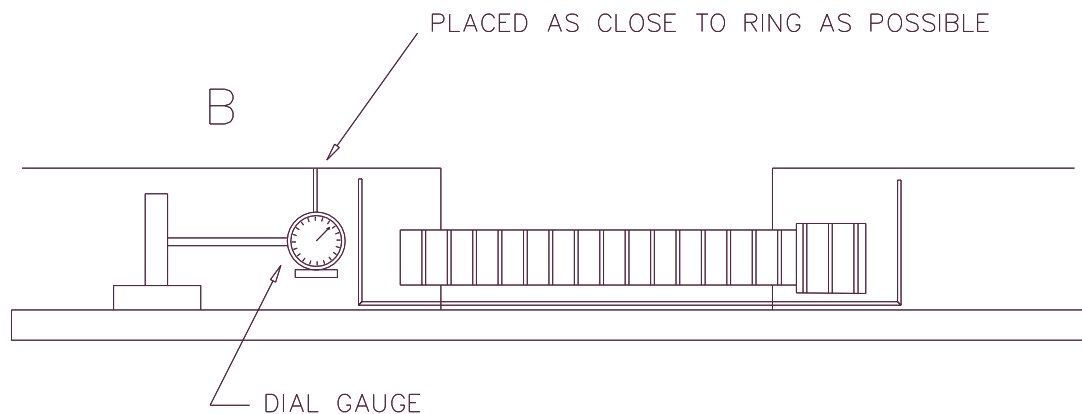

Figure 5.1 : Slew Ring Bearing Play Measurement
- (j) Check the slew bearing for any obvious defects. Generally, no user maintenance to the slew bearing is possible. The replacement of the slew bearing is a major operation and advice should be sought from Terex Aerials Ltd. Checks must be made to ensure that all securing bolts are tight. Any bolts found loose or sheared must be replaced. Slew ring play is measured at the perimeter of the ring, the maximum rock allowed is 1.7mm (Refer to Figure 5.1)